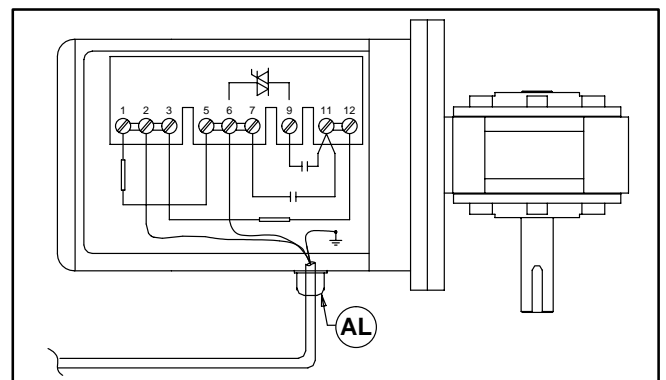

Figure 20
- b. Record wire colors on terminals 2, 6 and ground ( $\perp$ ) (Figure 20). Loosen terminals 2, 6 and ground and remove wires.
- c. Loosen cord grip (AL of Figure 20) and remove cord.